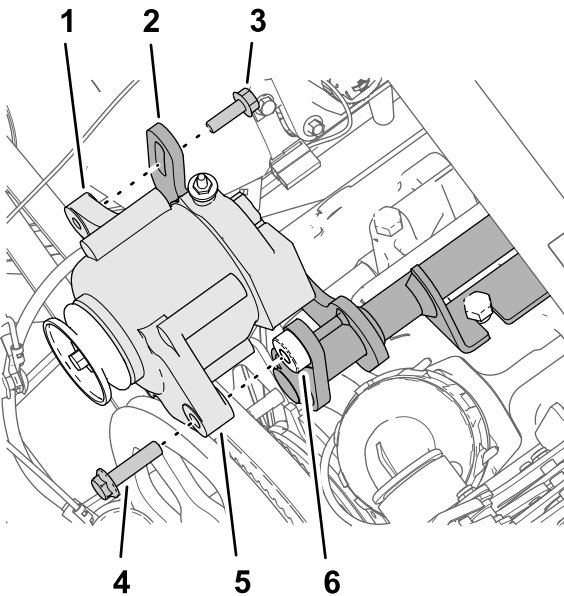

Figure 182
1. Assemble the alternator (60 A) to the threaded boss of the alternator-bracket (Figure 182) with the flange-head bolt (3/8 x 1-1/2 inches).
2. Assemble the threaded flange of the alternator to the slotted flange of the alternator bracket (Figure 182) with the flange-head bolt (8 x 25 mm).